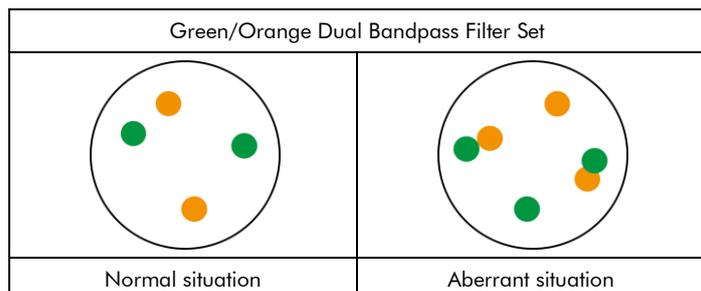

Fig. 2: Expected results in normal and aberrant nuclei
**Normal situation:** In interphases of normal cells or cells without a translocation involving the respective bands, two separate green/orange signals appear (see Fig. 2).
**Aberrant situation:** A gene fusion is indicated by one separate orange signal, one separate green signal, and two orange/green fusion signals. (see Fig. 2).